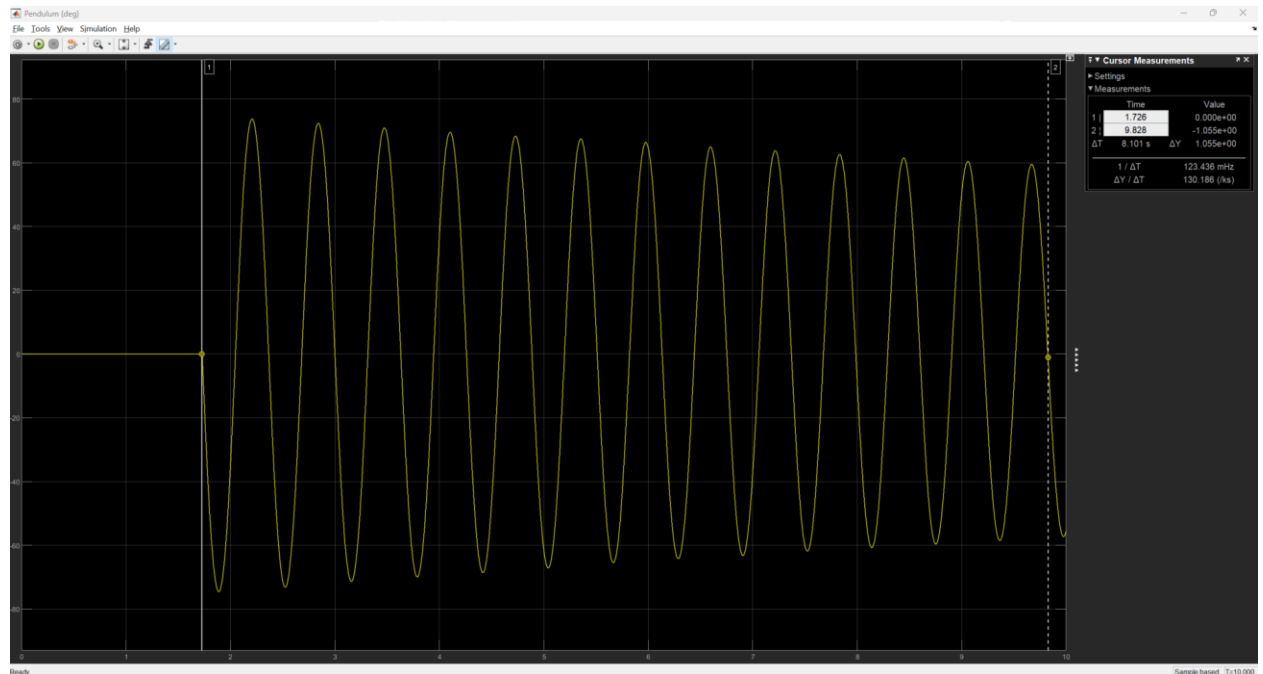

Figure 4: Sample response of perturbed pendulum.
19. Measure the number of cycles (n_{cyc}) and the duration of the cycles (Δt) from the pendulum position scope. Your response should look similar to Figure 4: